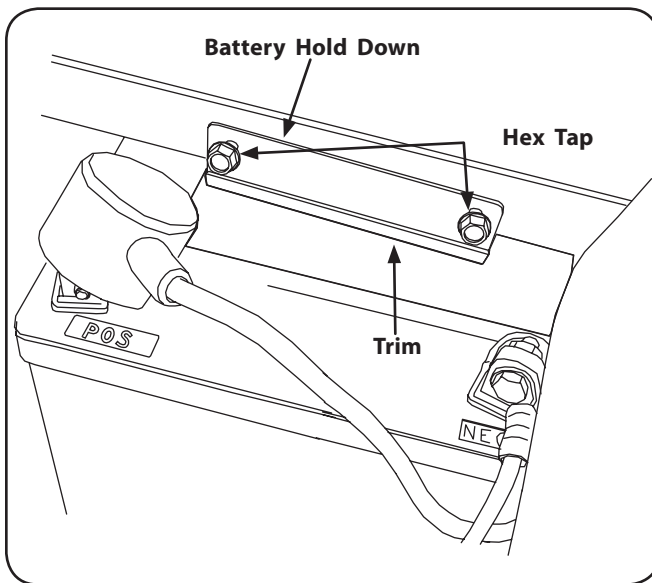

Figure 7-1
1. Remove the two hex tapping screws from the battery hold-down bracket and remove the bracket. Use care to avoid losing the trim strip from the bottom of the bracket. See Figure 7-1.